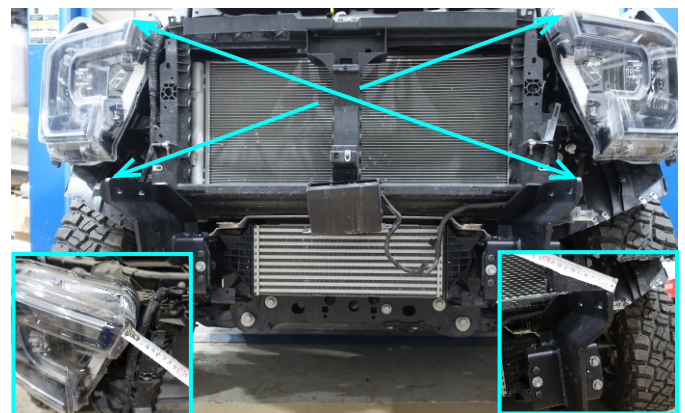

Fig.35
34. Make sure that the distance from the headlights to the opposite corners of frame brackets are the same (fig.35).